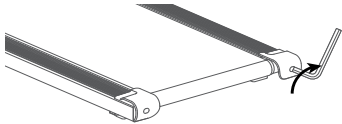

Figure 2
b. Press the handrail as illustrated (Fig. 2).
- If the walk belt has shifted to right, use the **5mm L-type** hex tool to turn the right idler roller screw clockwise **1/4** of turn(refer to figure 2).